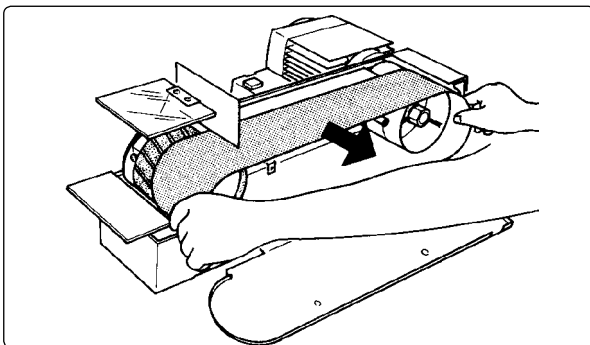

fig 15
8.2.3. Place the new belt over the end rollers (fig 15).